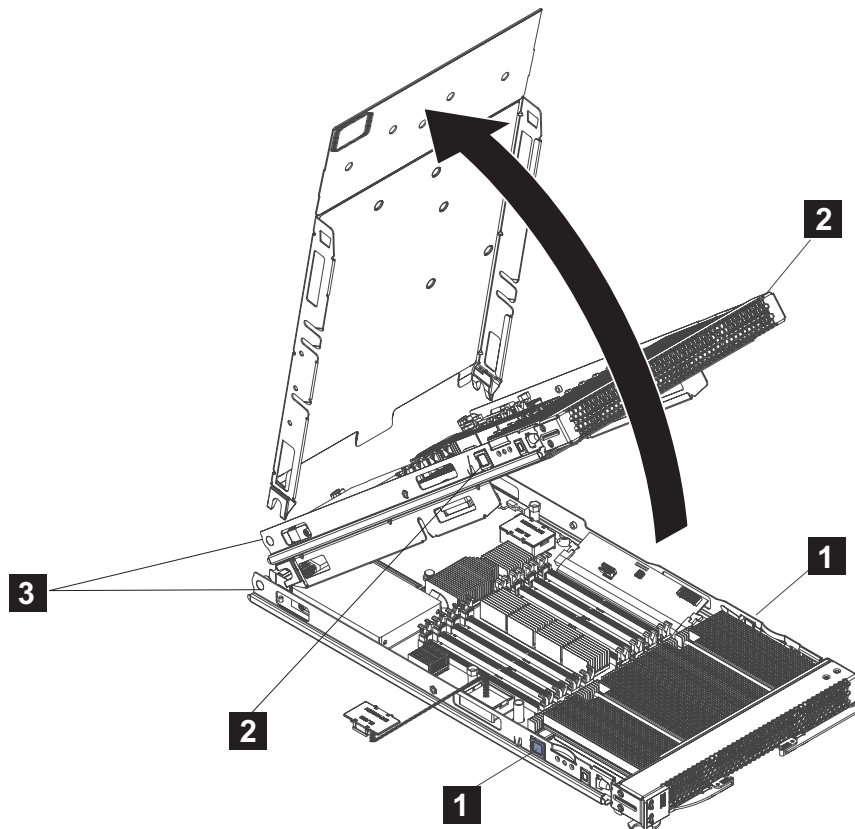

Figure 13. Removing the cover
4. Press the blade-cover release (as shown by **1** for the base unit and by **2** for the expansion unit in Figure 13 on page 256) on each side of the blade server, rotate the cover on the cover pins (**3**) and lift the cover open.